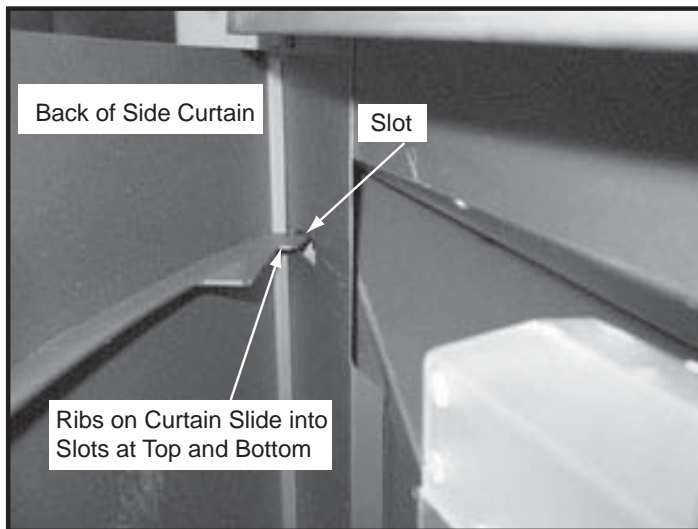
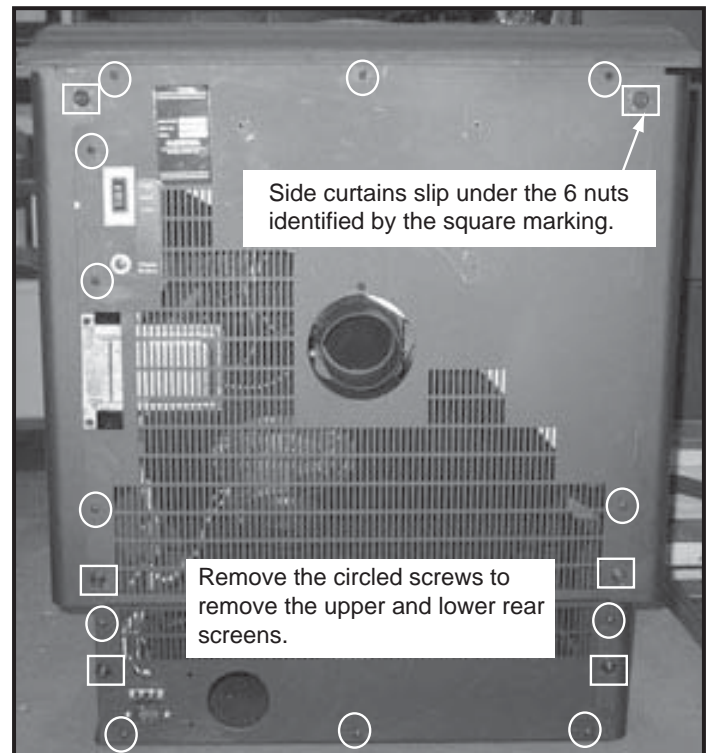

Figure 20.1
Figure 20.3
- Remove the right upper and lower side curtains by loosening 7/16" nut in the back and lift off of the appliance. When re-installing flex curtain to re-attach. **Figure 20.1.**
- Remove both upper and lower side curtains. **Figure 20.1.** Remove the upper and lower rear curtains. **Figure 20.3.**